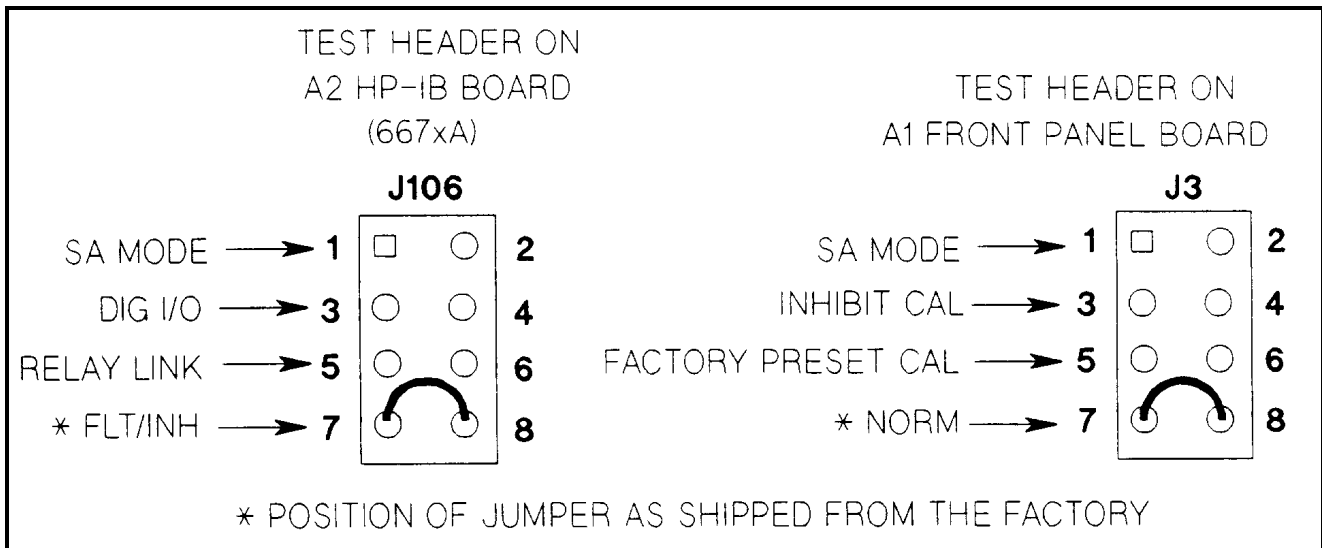

Figure 3-15. Test Header Jumper Positions
The power supply has two test headers as shown in Figure 3-15, each with a jumper that can be moved to different positions for SA testing and for other functions. To gain access to the headers, remove the power supply top cover.
2. Connect SA jumper of connector J106 on A2 HP-IB Board (see Figure 3-15).
| 3. | Connect SA jumper of connector J3 on A1 Front Panel Board see Figure 3-15. | | | | | | | | | | | | | | | | | | | | | | | | | | | | | | | | | | | | |
| 3. Connect signature analyzer CLOCK, START, STOP, and GROUND inputs and setup as shown in Figure 3-15. | | | | | | | | | | | | | | | | | | | | | | | | | | | | | | | | | | | | | | | | | |
If **CAL DENIED** appears on the display when front panel calibration is attempted (or error code 1 occurs when HP-IB calibration is attempted on a Systems Supply), the INHIBIT CAL jumper (see Figure 3-15) is installed. This prevents the power supply calibration from being changed. To calibrate the power supply first move this jumper from the INHIBIT CAL position to the NORM position.